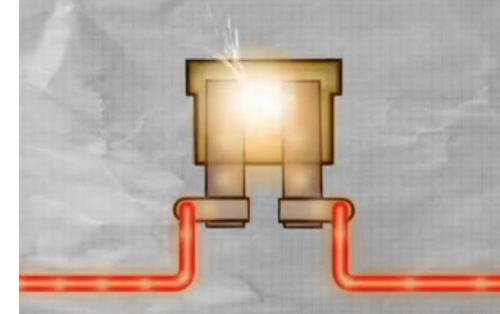

Fig 1.2 Fuse under abnormal condition
- The time current characteristics of a fuse are represented by two curves: the minimal-melting time curve and the total-clearing time curve. The first the time that the element start to melt, and the second the time the elements have fully melted / vaporized and the arc has been cleared see Figure 1.2.